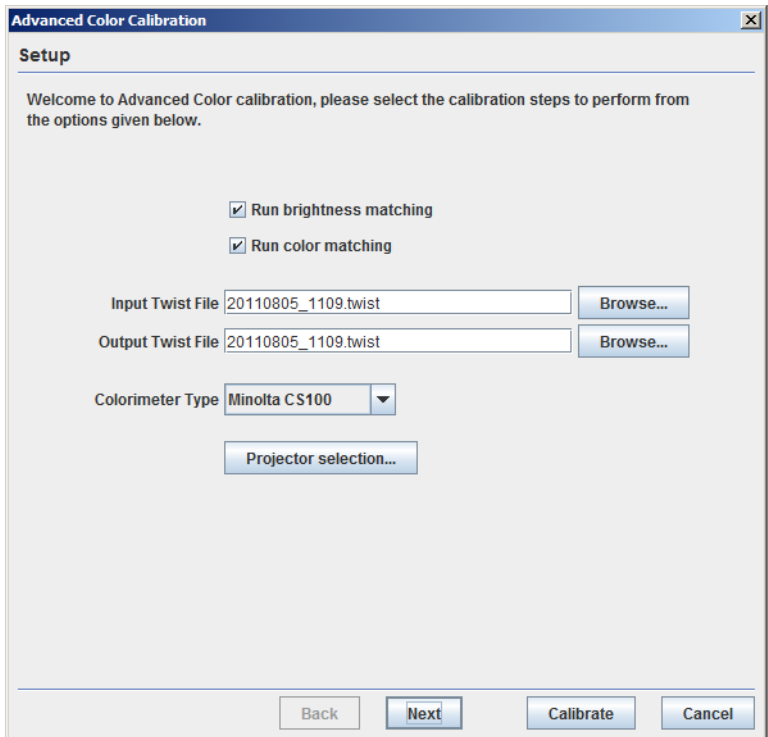

Figure 4-31 Advanced Color Calibration Dialog Box
1. In the AutoCal window, under Color Options, select the **Advanced Calibration** option and then click **Run**. The Advanced Color Calibration dialog box appears (**Figure 4-31**).